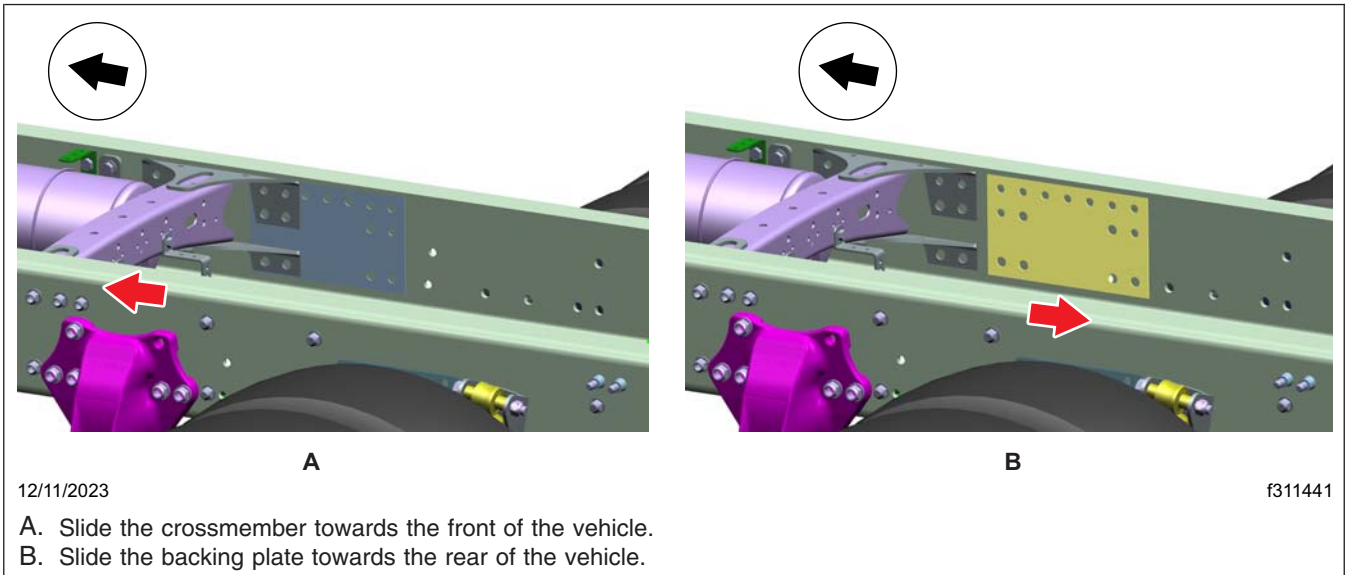

Fig. 8, Sliding the Crossmember and the Backing Plate
11. Use a portable power source to spread the frame rails slightly, then slide the crossmember towards the front of the vehicle, as shown in **Fig. 8**.
12. Slide the right-hand side backing plate towards the rear of the vehicle to remove it. Discard the right-hand side crossmember backing plate. See **Fig. 8**.